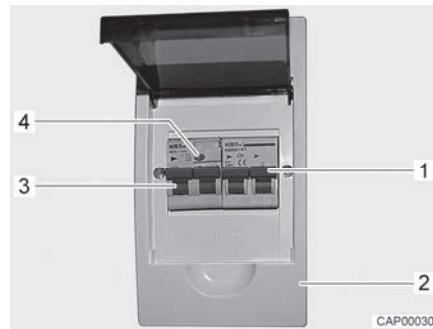

Fig. 80 Safety cut-out and FI-switch (230 V fuse box)
- Switch off the safety cut-out (Fig. 80,1) in the fuse box (Fig. 80,2).
- When the vehicle is connected to the 230 V supply, press the test button (Fig. 80,4) of the fault current protection switch (FI-switch) (Fig. 80,3) in the fuse box (Fig. 80,2). The fault current protection switch must trip.
- Switch the fault current protection switch (Fig. 80,3) back on again.